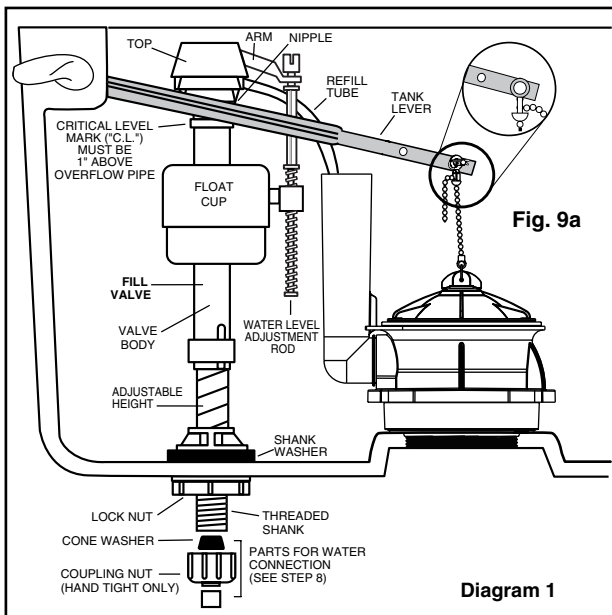

Fig. 9a
- b. If bowl fails to siphon, an adjustment may be required with the lift chain. Simply remove the bead chain from the retainment clip (see Fig. 9a) and take up slack on the chain, and reinsert on lift rod. Make sure the chain is not too taut.